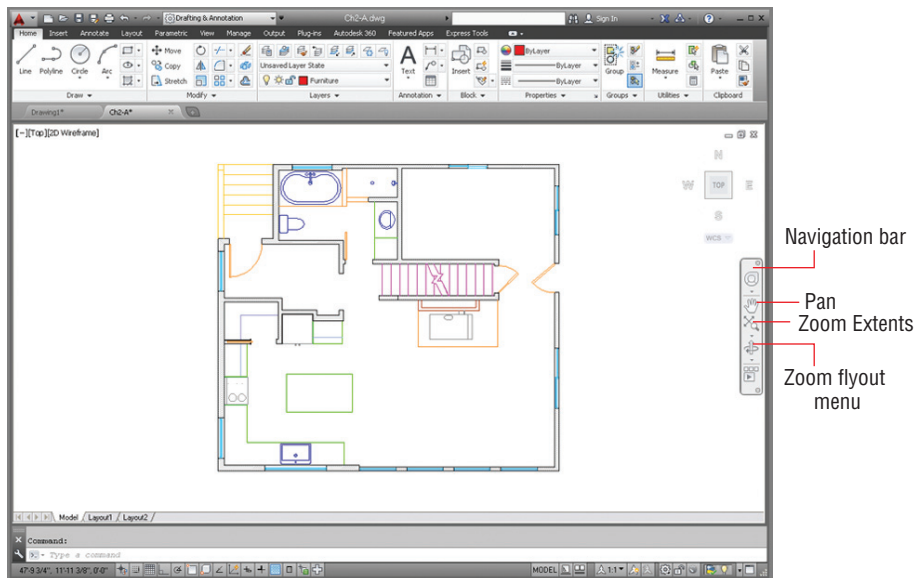

FIGURE 2.1 House sample file
1. Go to the book's web page at www.sybex.com/go/autocad2014essentials, and browse to Chapter 2. Get the file `Ch2-A.dwg` or `Ch2-A-metric.dwg`, and open it in AutoCAD (see Figure 2.1).